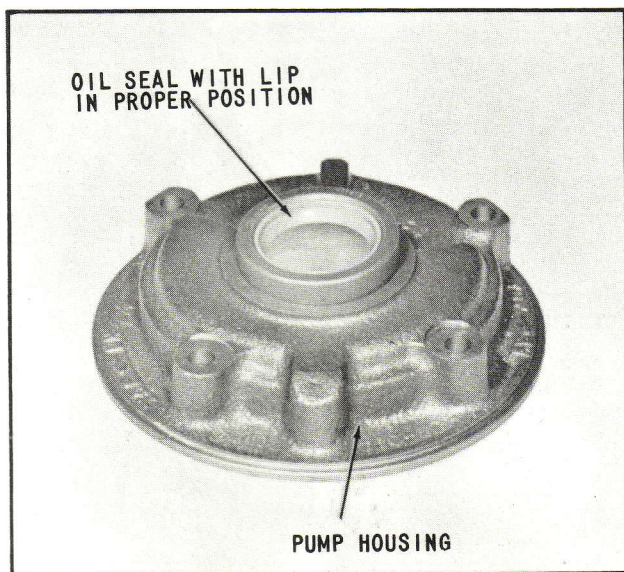

Fig. 63 Installing Pump Oil Seal
- 58. Place pump housing squarely on arbor press table. Apply a suitable sealant to the outside diameter of seal before installing squarely into bore of housing with seal lip positioned as shown in (Fig. 63). Caution should be observed to insure that too much sealant is not used, that any excess is wiped away after the seal is installed, and that the sealant does not get on the sealing element.